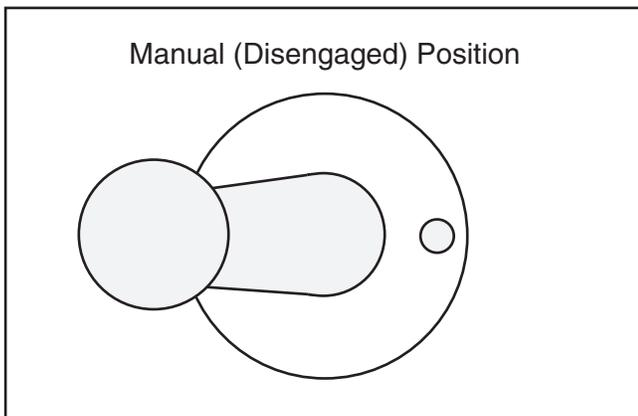

Figure 42. Downfeed selector in manual (disengaged) position.
2. Pull downfeed selector knob out, then rotate it clockwise until knob pin seats in the forward manual (disengaged) detent (see **Figure 42**).